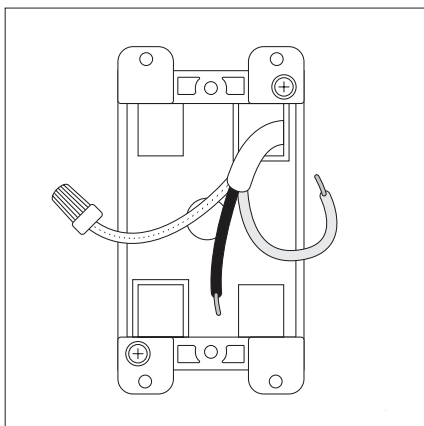

fig. 4
3. Run power to wall box utilizing stranded or solid core 12-18 AWG wire (see figure 4).